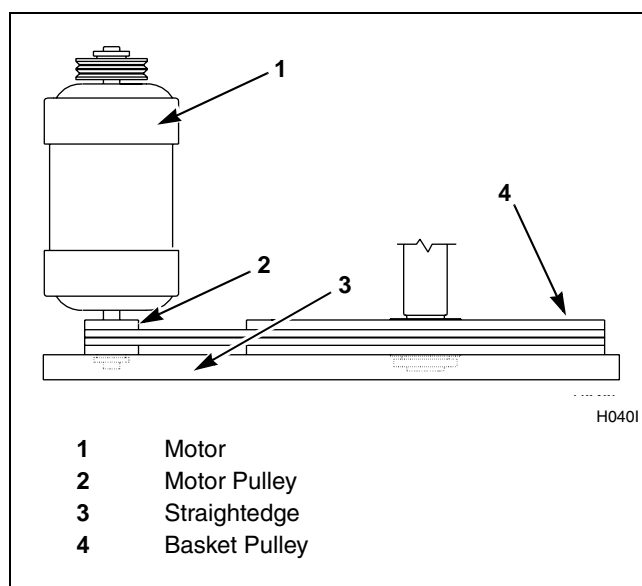

Figure 9
- b. For groove-pulley drive systems, verify alignment by placing a straightedge across both pulley faces. The straightedge should make contact with the pulleys in four places. Refer to *Figure 9*.